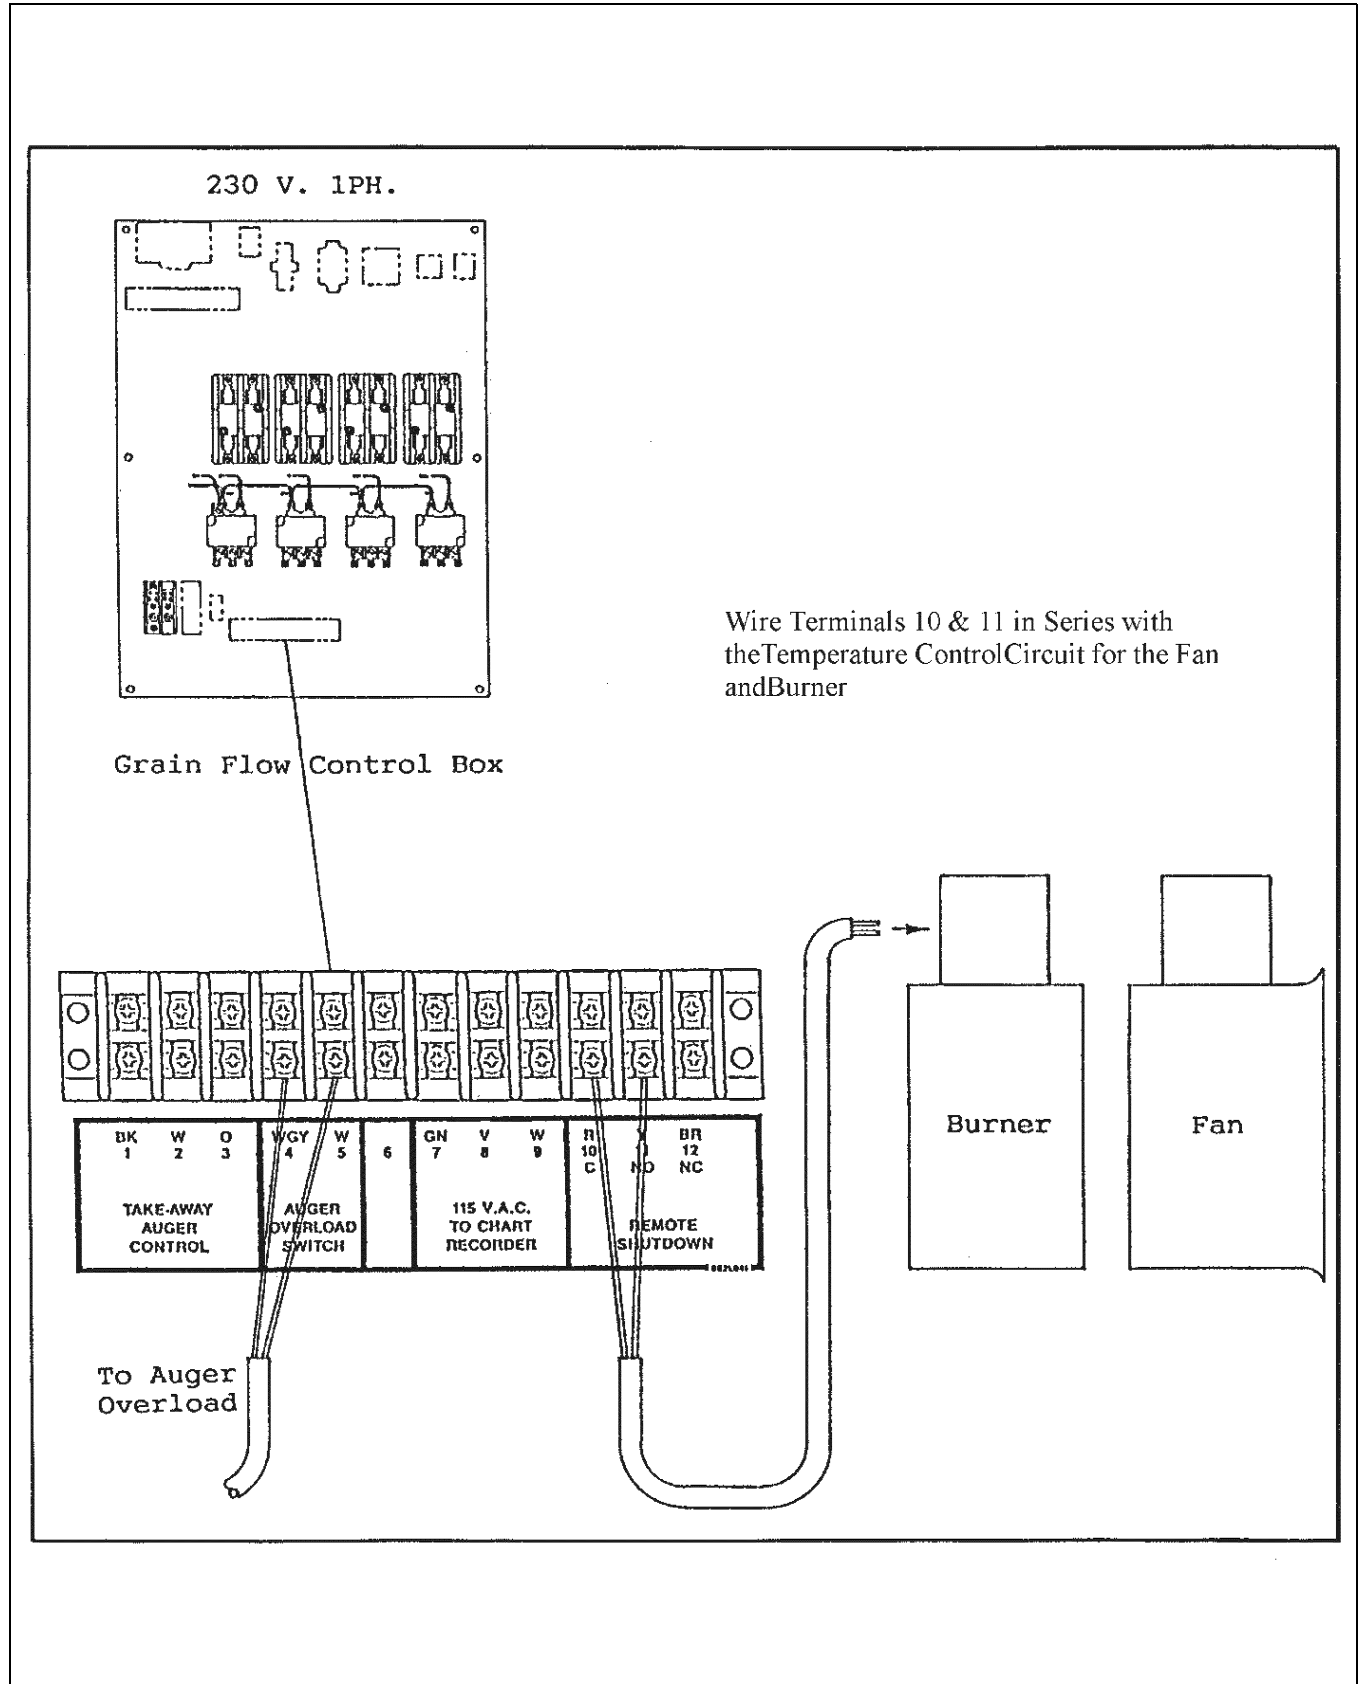

Figure 11A
1. Locate the remote shut down terminals #10 and #11 on the terminal strip at the bottom of the Grain Flow back panel. Connect these two (2) terminals in series with the fan and burner control circuit. *(See Figure 11A on Page 98.)*